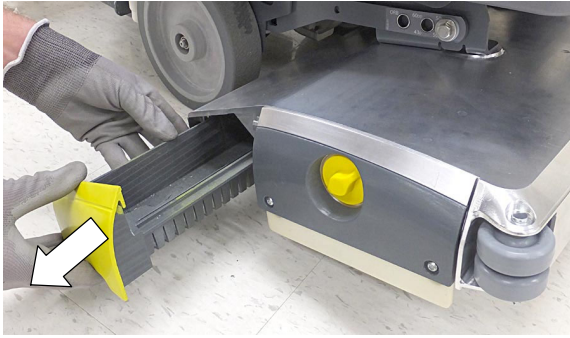

FIG. 22
2. Remove the debris tray by sliding it out from the scrub head (Figure 22).